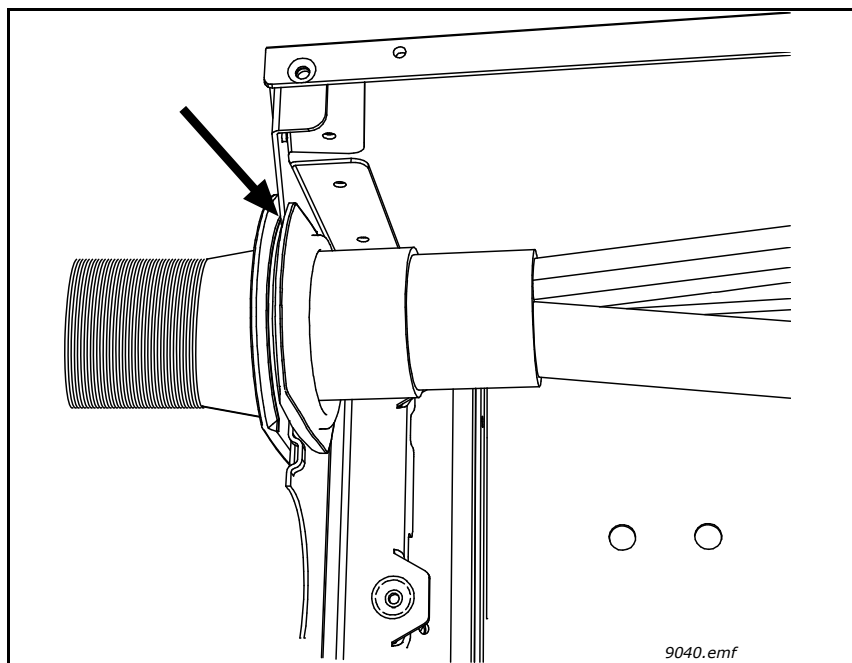

Figure 40.
**8** Place the grommet with the cable so that the frame end plate fits in the groove on the grommet, see Figure 40. To meet the requirements of the enclosure class IP54, the connection between the grommet and the cable must be tight. Therefore, lead the first bit of the cable out of the grommet **straight** before letting it bend. If this is not possible, the tightness of the connection must be ensured with insulation tape or a cable tie. As an example, see Figure 26.